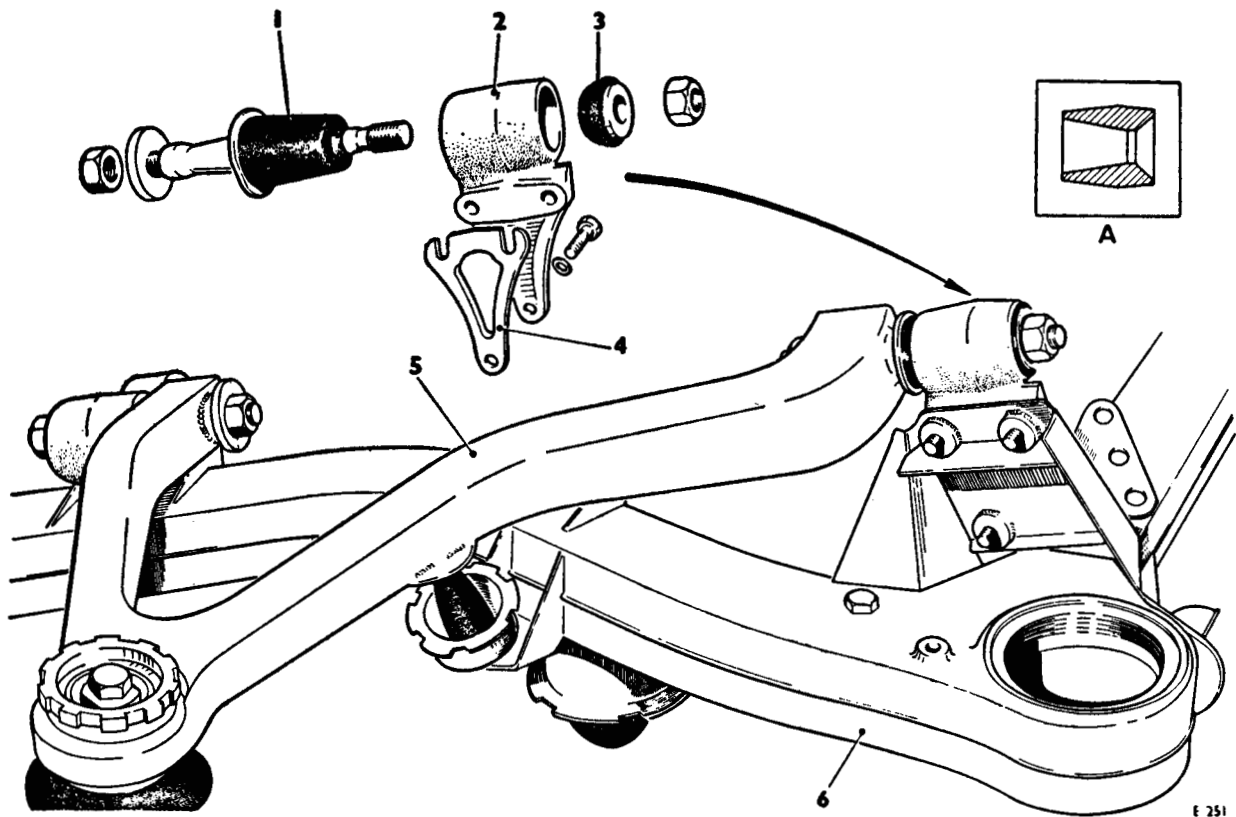

FIG. H13 UPPER TRIANGLE LEVERS MOUNTING POINTS
4. Remove the triangle levers and cantilever brackets as an assembly (see Fig. H13). The cantilever brackets are secured to the sub-frame by setscrews.
Note Castor and camber settings are obtained by selective fitting of adjusting washers (shims) between the cantilever bracket of the upper triangle lever bearing pin and the sub-frame (see Fig. H13).
Ball joint assembly—To fit (see Fig. H13)